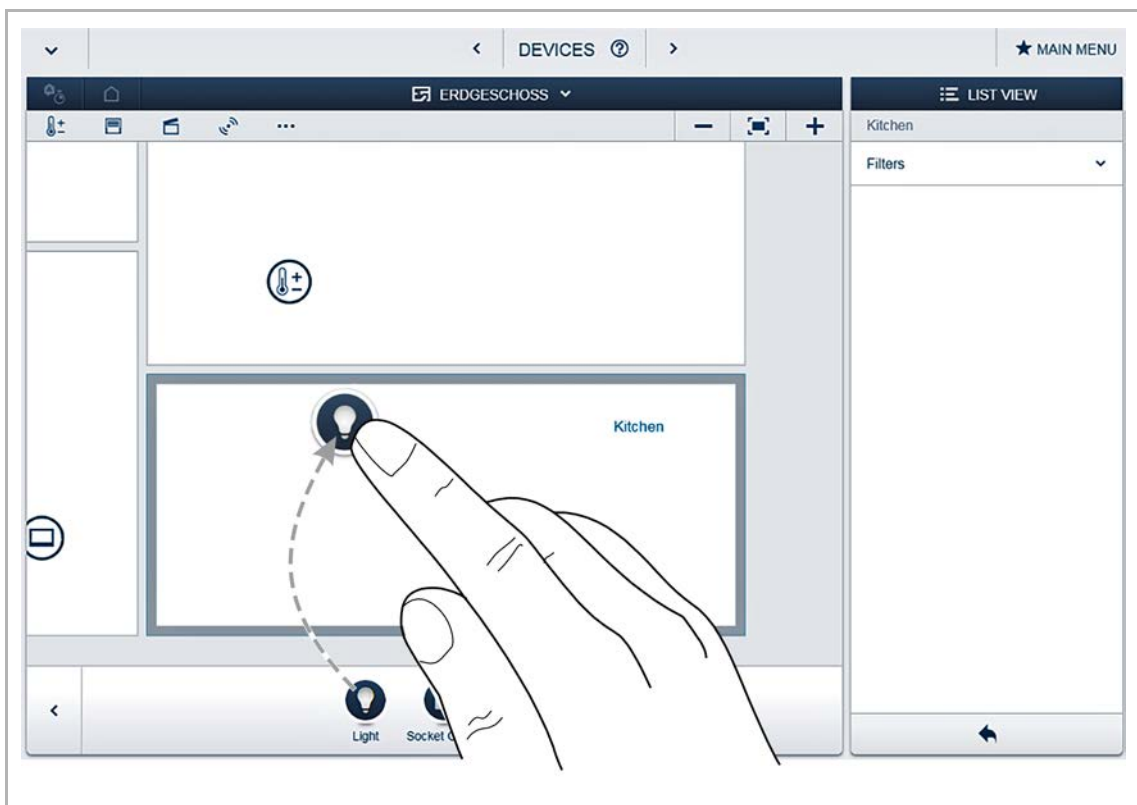

Fig. 26: Dragging the application from the add bar
- In the "Add devices" bar select the desired application and pull it via drag and drop onto the floor plan, see Fig. 26: